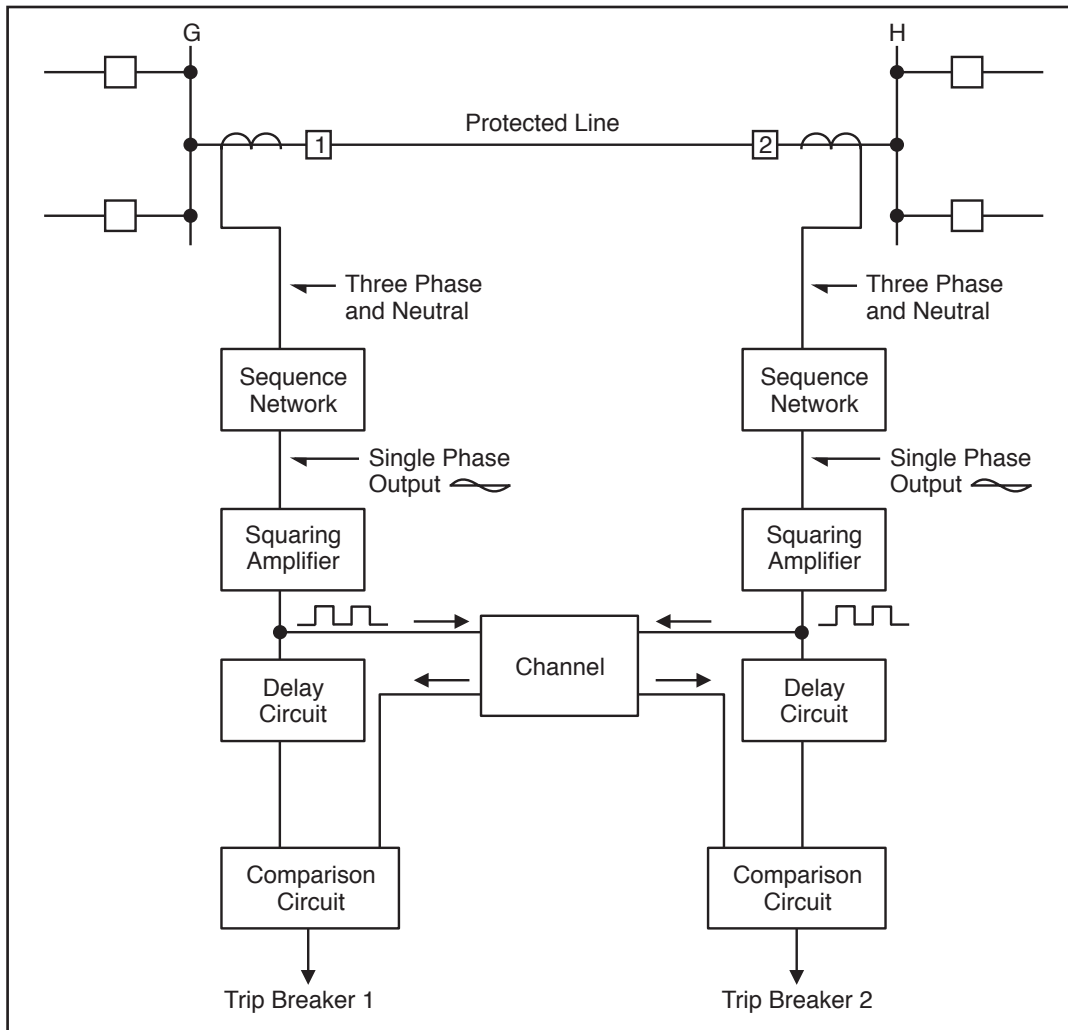

Figure 3–2. Phase-Comparison Blocking, Basic Elements
The basic elements for directional-comparison blocking systems are shown in Figure 3–1a and Figure 3–1b. At each terminal, the phase and ground trip units (P) must be directional and set to overreach the remote terminal; that is, they must be set to operate for all internal faults. Nominal settings of the distance units are 120 to 150 percent of the line. The start units (S) must reach farther, or be set more sensitively, than the remote trip units. Thus S₁ must be set more sensitively than P₂ or reach farther behind bus G. Likewise, S₂ must be set more sensitively than P₁ or reach farther behind bus H. In any case, the S and P relays should be similar in type. If the trip unit (P) is a directional overcurrent ground relay, the start (S) ground relay should be a similar non-directional overcurrent unit. The same principle applies for the phase relays.
Operation of the directional-comparison scheme in Figure 3–1a, Figure 3–1b & Table 3–1 is shown for external and internal faults. Subscript 1 indicates relays at station G for breaker 1; subscript 2, relays at station H for breaker 2. (Figure 3–1c shows a solid-state logic version of Figure 3–1b.)
A sample schematic for the KA-4 relaying system is shown in Figure 3–5a. A sample schematic for a basic microprocessor relay system is shown in Figure 3–6. Figures 3–7a & 3–7b illustrate some GE EM relay schematics.
Basic elements of the phase-comparison systems are shown in Figure 3–2. The system uses a composite sequence current network to provide a single-phase voltage output proportional to the positive, negative, and zero sequence current input. Sensitivity to different types of faults depends on the weighting factors or constants designed into the sequence current network. Adjustments to the network are provided.
The basic operation of the system is shown in Figure 3–3, at the end of this section. FD1 and FD2 at both terminals operate for an internal fault (F1).
For an external fault, such as FE in Figure 3–3, blocking is essentially continuous, since the remote wave input to the AND is out-of-phase with the local square wave. The secondary ct currents are essentially out-of-phase for an external fault. The currents can, however, be in-phase by up to 90° on a 60-Hz base and still block.